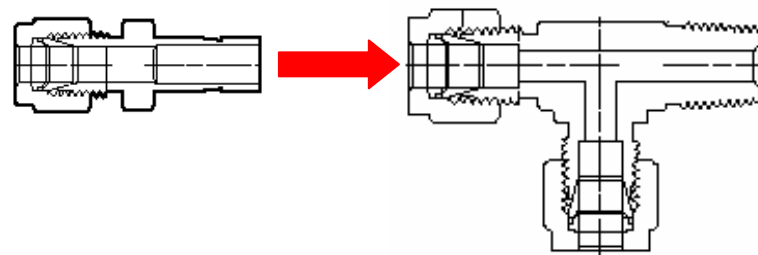

Figure 4: Reducer fitting and Tee-Fitting
2. Insert the reducer fitting into the Tee fitting in line with the boss. Tighten the lock nut on the Tee until it is finger tight and then tighten it 1 ¼ turns with a 9/16" wrench (Figure 4).